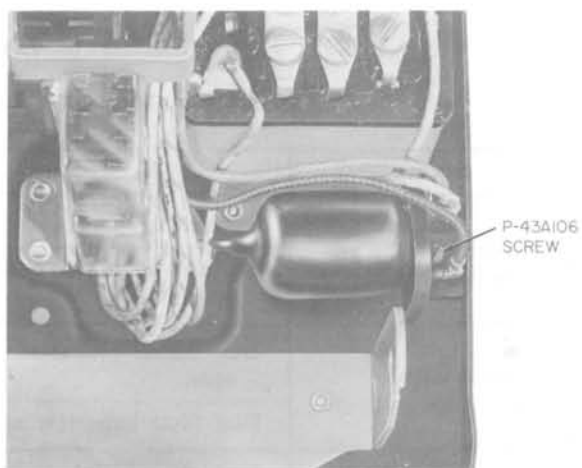

Fig. 11—501-Type Telephone Set, Tube Assembly
- 4.05** Tube assembly is held to base of set with single screw (Fig. 11).